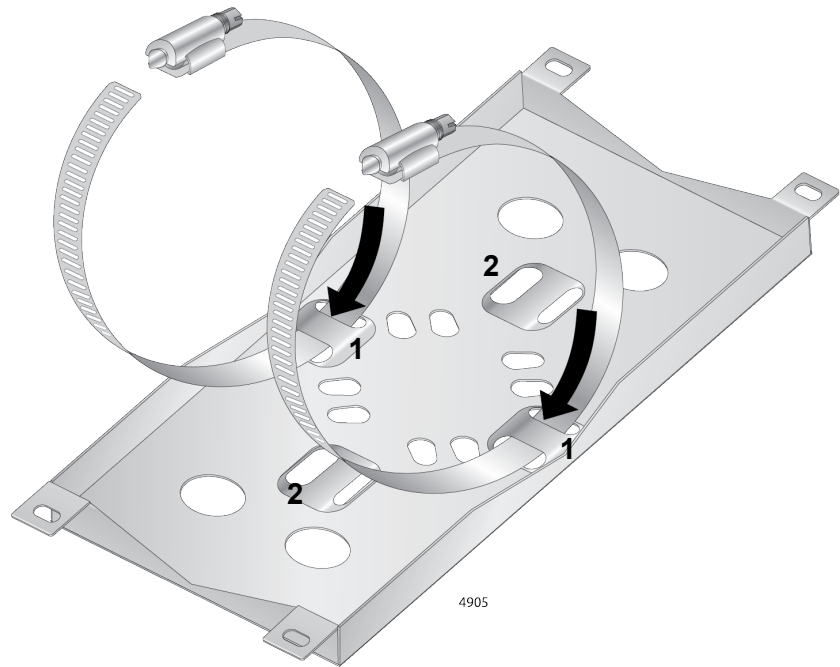

Figure 30. Threading the Pole Straps
3. Thread one pole strap through the holes marked 1 to attach to the mounting base. Repeat the threading for the other pole strap. See Figure 30.
Figure 30 shows how to install the access point to a vertical pole. To install the access point on a horizontal pole, use the other set of the holes marked 2 to attach the pole straps to the mounting base.